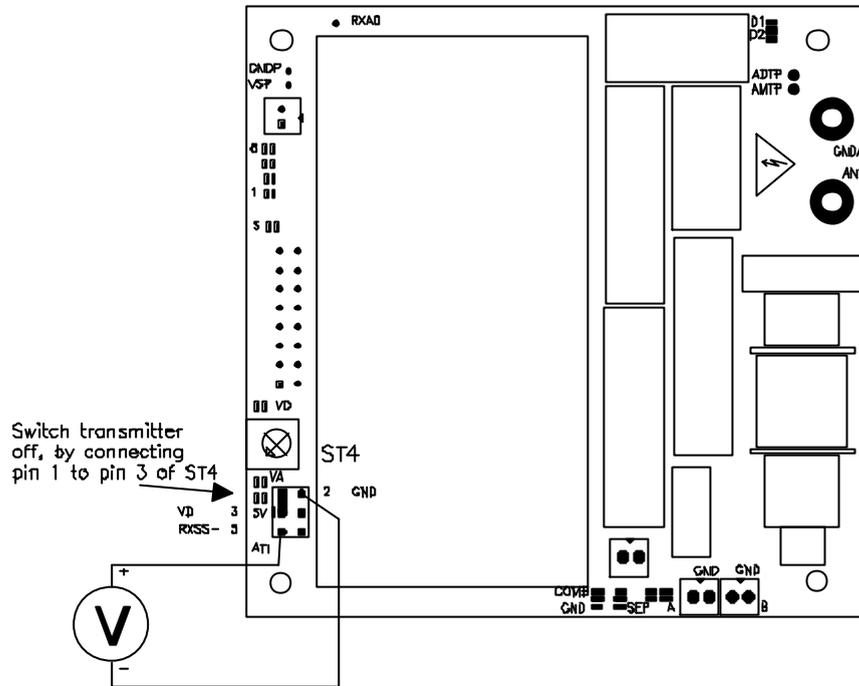

Figure 53: Measuring the RXSS- Signal for Adjusting the RXSS- Threshold Level
To do this the voltage at the RXSS- pin has to be measured with a standard voltmeter or an oscilloscope, as shown in figure 53. The threshold level is adjusted according to the following procedure:
- * Deactivate the transmitter by connecting together pin 1 and pin 3 of connector ST4, as shown in figure 53.
- * Ensure that no other reading units are transmitting, by connecting pin 1 to pin 3 of connector ST4 of all other RF modules in the area, as shown in figure 53.
- * Monitor the voltage at RXSS- output pin with a voltmeter or an oscilloscope as shown in figure 53.